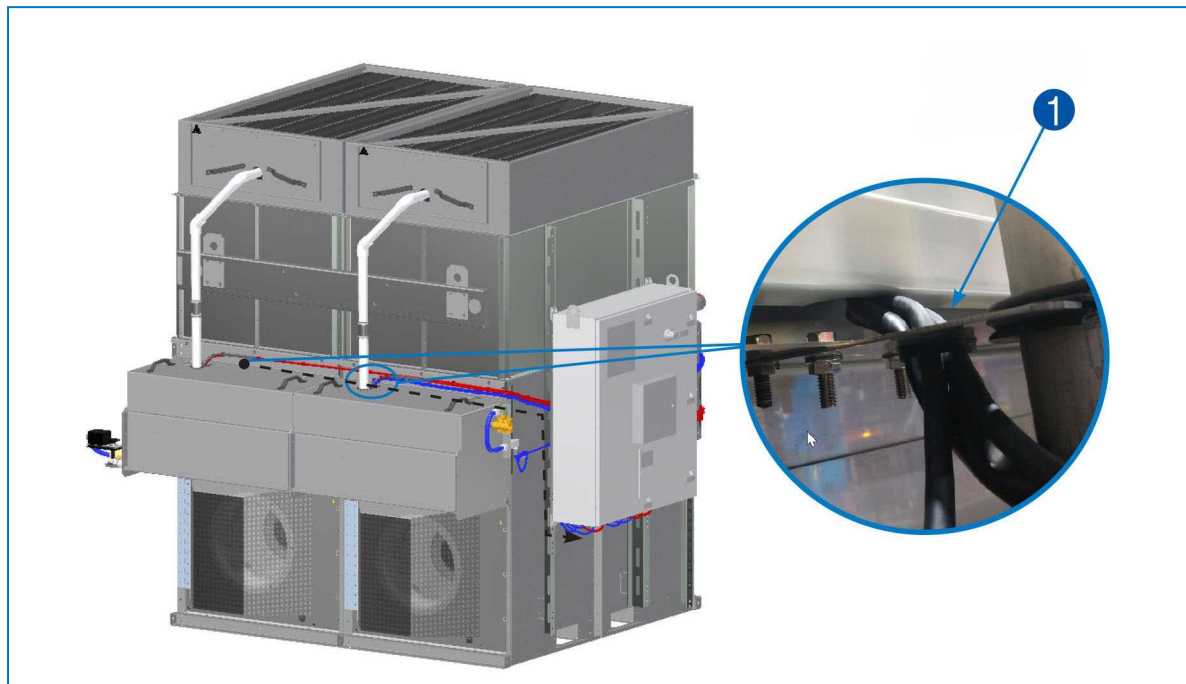

Fig. 18 Pump wire to the iPilot® Control System panel - 1. Pump wiring through grommet.
8. Route pump wire through grommet at top of spray water basin. Follow wire path toward the control panel end. Pull pump wire through top oblong hole with edge trim on control panel mount channel. Pull each wire through individual cord grips at the bottom of the control panel, then connect each wire to the correct terminal block. Please follow wire diagram located within the control panel. See figure 18.